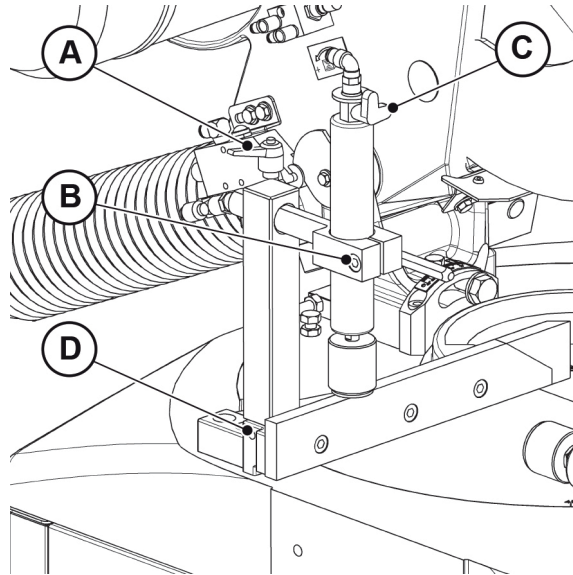

Fig. 07-06
- 1 Loosen the release handle "A" (**Fig. 07-06**) to adjust the distance from the profile.
- 2 Loosen the screw "B" (**Fig. 07-06**) to adjust the vice vertically.
To exclude the vertical vice, adjust the tap "C" (**Fig. 07-06**).
The vertical vice can be positioned to the right or left of the head by adjusting the fixing grub screw "D" (**Fig. 07-06**).